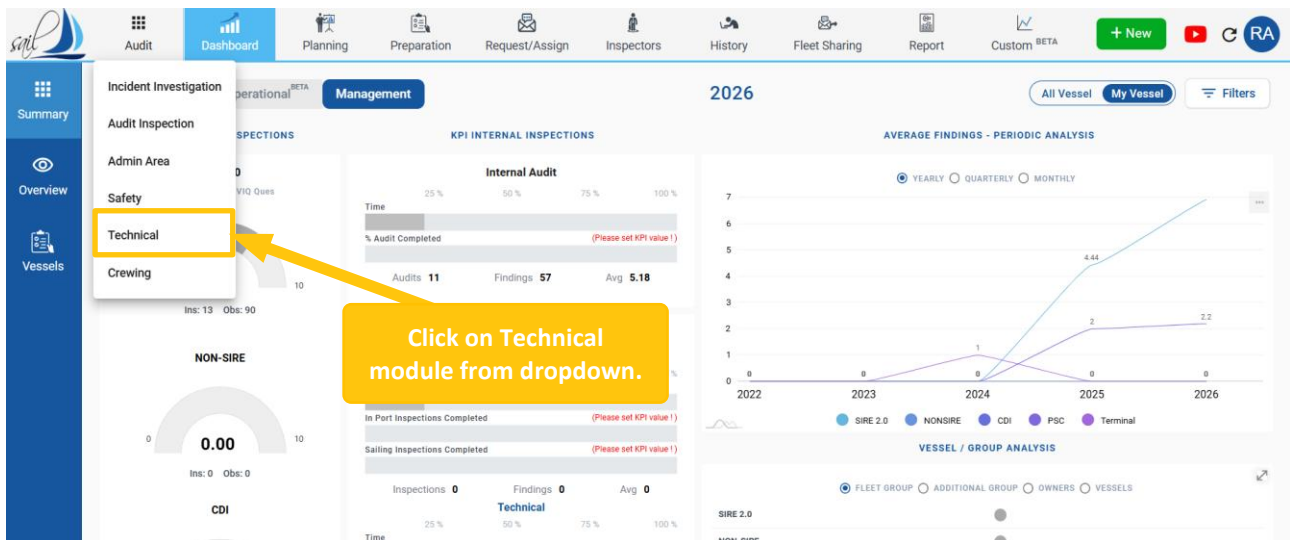

Figure 2
- Click on 'Technical' from the dropdown. (Ref Figure 2)